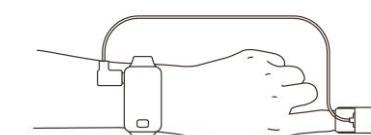

Figure 4 Sketch map for finger placement
A. Insert a finger into the probe, as shown in Figure 4.
(the appearance of the actual probe may be different with the one shown as Figure 4, please refer to the actual one.)